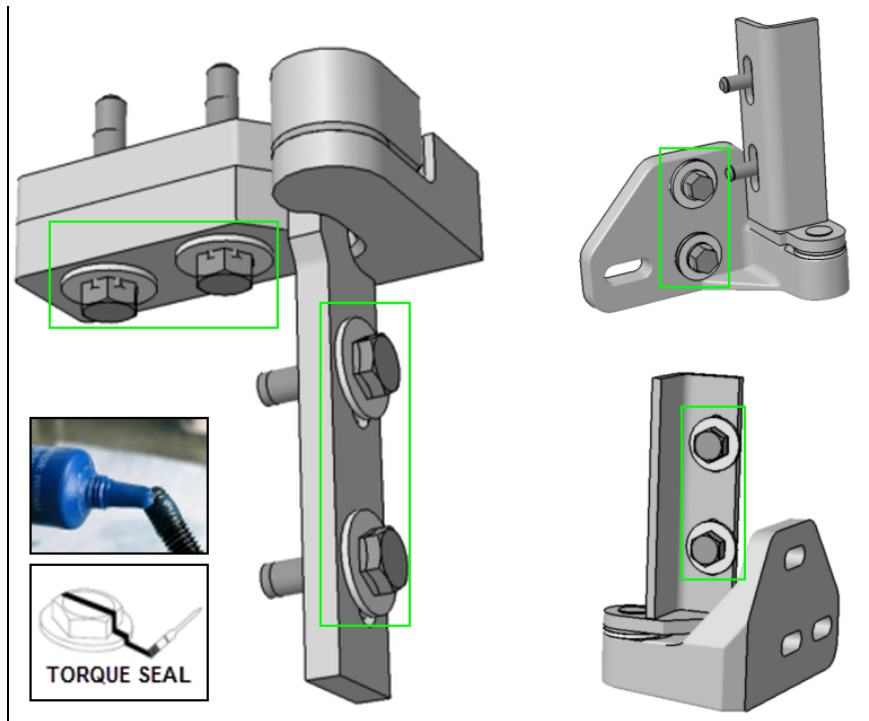

FIG.18 RE-APPLY THREAD LOCKER AS NECESSARY AND APPLY TORQUE SEAL
7. With the door gaps correctly adjusted, re-apply blue, *medium strength thread locker* on the loosened bolts (one at the time – do not disturb adjustment), re-torque fasteners to the specified torque (**68 lb-in**) and apply a stripe of tamper proof indicator paint (torque seal) to all bolt heads (upper and lower hinges) (Fig.18).